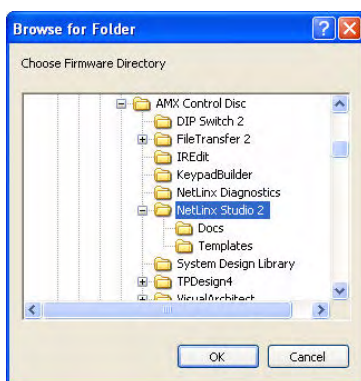

FIG. 85 Browse for Folder window
8. Select the appropriate Kit file from within the Browse for Folder window (FIG. 85).